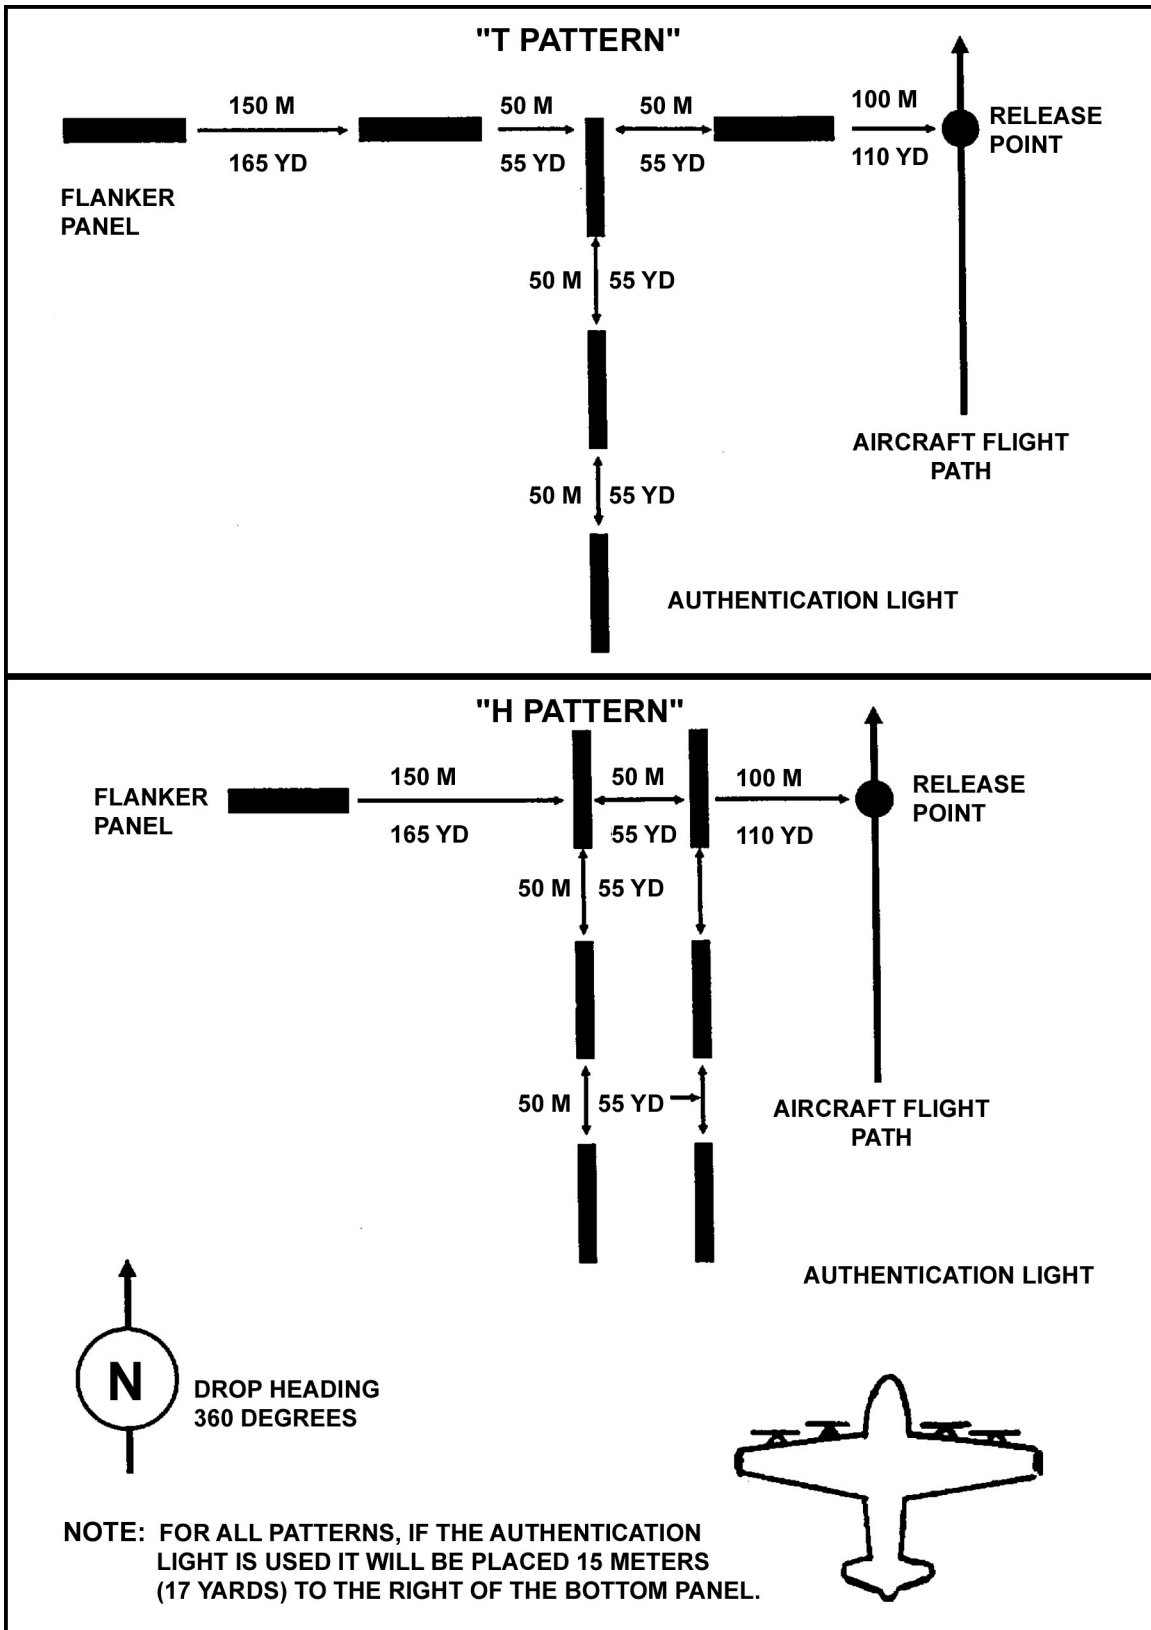
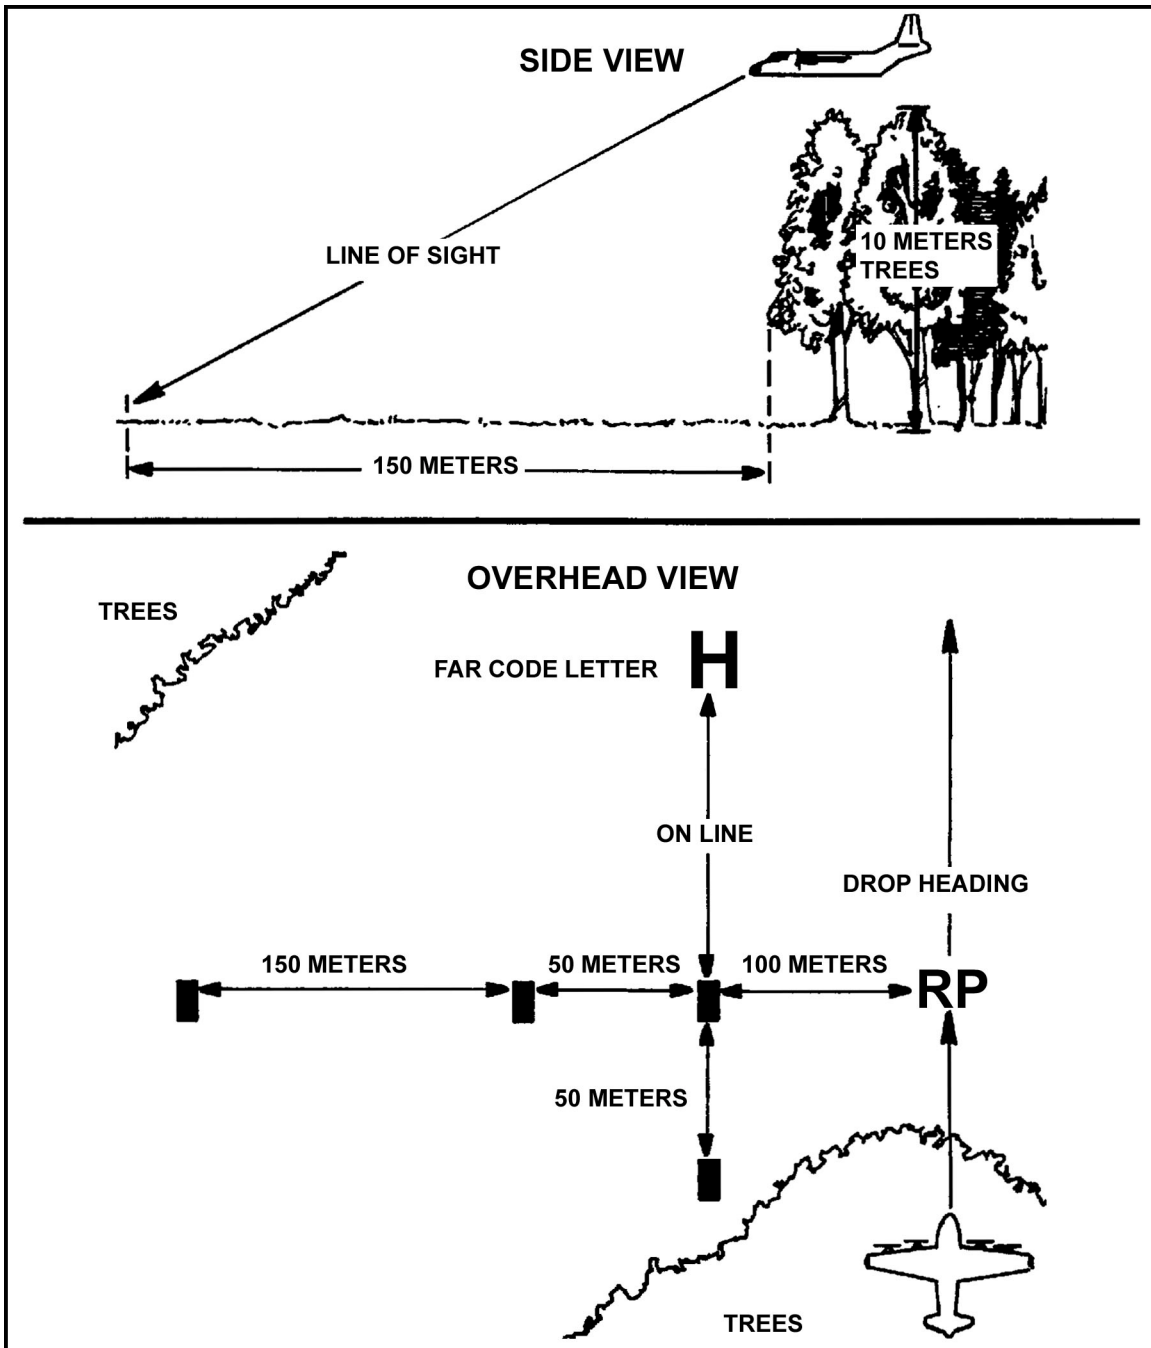

Figure 22-3. GMRS panel emplacement.
Figure 22-4. The 15:1 mask clearance ratio.
The GMRS uses markings known as the four-panel inverted L, six-panel T, or seven-panel H. The T or H pattern is recommended for C-141/C-5 airdrops due to aircraft's side angle vision limitations (Figure 22-3).
a. **Inverted L Marking.** When the drop aircraft is 100 meters directly to the right of the corner (A) panel, the drop is executed.
b. **Marking Placement for Inverted L.** Markings (four panels) are placed as follows (Figure 22-3):
(1) From the RP, move 100 meters to the left (90 degrees) of drop heading for the location of the corner (A) panel. Emplace a VS-17G panel with the long axis of the panel parallel with the drop heading. Elevate the panel at a 45-degree angle toward the approaching aircraft. This aids the aircrew and the JM in visual identification of the DZ.
(2) From the corner (A) panel, move in the same direction as above for 50 meters for the location of the alignment (B) panel. Emplace this panel as described above.
(3) From the alignment (B) panel, move 150 meters in the same direction as above for the location of the flanker (C) panel. Emplace this panel as described above.
(4) From the corner (A) panel, move 50 meters on a back azimuth of the drop heading for the location of the approach (D) panel. Emplace this panel the same as described above.
(5) At night, replace all panels with a white light. Lights may be shielded on three sides or placed in pits.
(6) During day operations, smoke may be displayed at the RP. During night operations, a white air traffic control light may be used to mark the RP.
(7) NO DROP may be signaled to the aircraft by red smoke, red flares, scrambled panels, or the absence of a planned signal.
c. **Mask Clearance.** Since the aircraft is required to fly along the markings on the DZ, these markings must be visible to the aircrew. The markings are placed where obstacles will not mask the pilot's line of sight. As a guide, a mask clearance ratio of 1:15 is used, that is, one unit of vertical clearance for every 15 units of horizontal clearance. For example, if a DZ marker must be positioned near a terrain mask, such as the edge of a forest that is on the DZ track, and the trees are 10 meters high (33 feet), the markings would require 150 meters (492 feet) of horizontal clearance from the trees (Figure 22-4). This applies to static line jumps only.
d. **Code Letters.** If any portion of the inverted L falls within a 15 to 1 (15:1) mask clearance ratio of obstacles on the approach end of the DZ, a code letter (H, E, A, T) or far panel is required on the departure end of the DZ for CDS or bundle drop and should be coordinated during the DZST/aircrew mission briefing. This far marking is on line with the corner (A) panel to allow the aircrew to begin alignment on the release point until the inverted L comes into view. If a code letter is used, it can be used to distinguish the DZ from other DZs in the area.